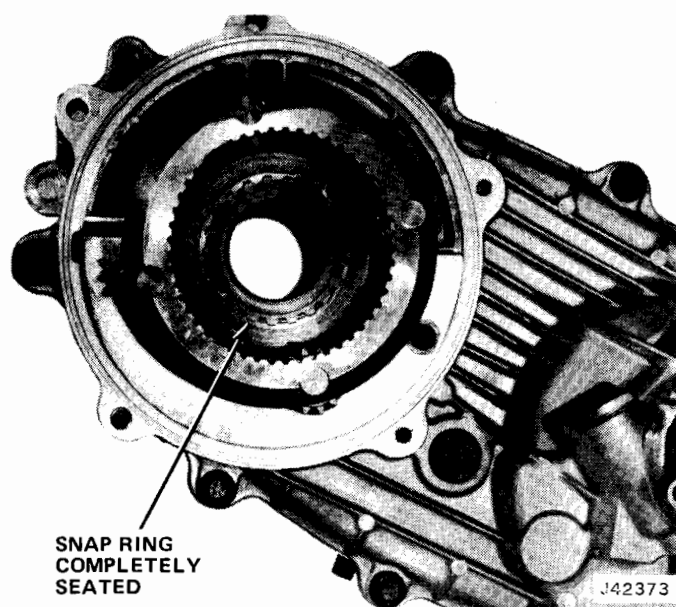

Fig. 8-22 Reduction Pinion Cage Installed
- (1) If removed, install pinion cage onto transfer case drive sprocket splines.
- (2) Install retaining snap ring. Be sure snap ring is seated completely in groove (fig. 8-22).
- (3) Clean sealing ring groove in transfer case cover and install sealing ring.
- (4) Lift reduction unit and mesh caged pinions with sun gear and ring gear, and align sun gear inner splines with transmission output shaft splines.
- (5) Move reduction unit forward until it contacts sealing ring.
- (6) Install attaching screws. Alternately tighten screws to 15 foot-pounds torque.
- (7) Connect shift lever linkage at reduction unit control lever.